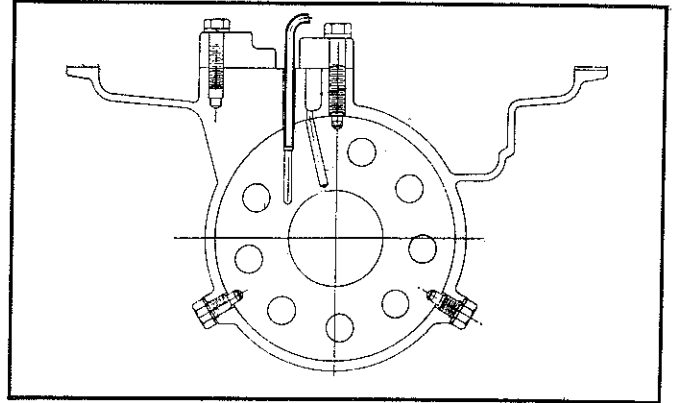

Fig. 47—Intermediate support location diagram
(4) Position the intermediate support to centrally align the oil feed tube with marked drilling (adjacent to the centre bolt hole); insert the feed tube to hold this position, whilst installing the 2 centre support screws and special lock washers (rolled side to screwhead — Refer Fig. 47).